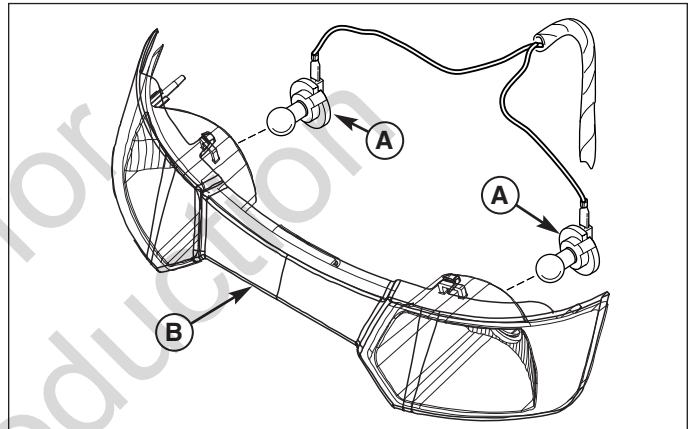

Figure 12. Head Light
2. Remove the socket and bulb (A, Figure 12) by twisting the socket counterclockwise and pulling it out of the bezel (B). Repeat on other side.